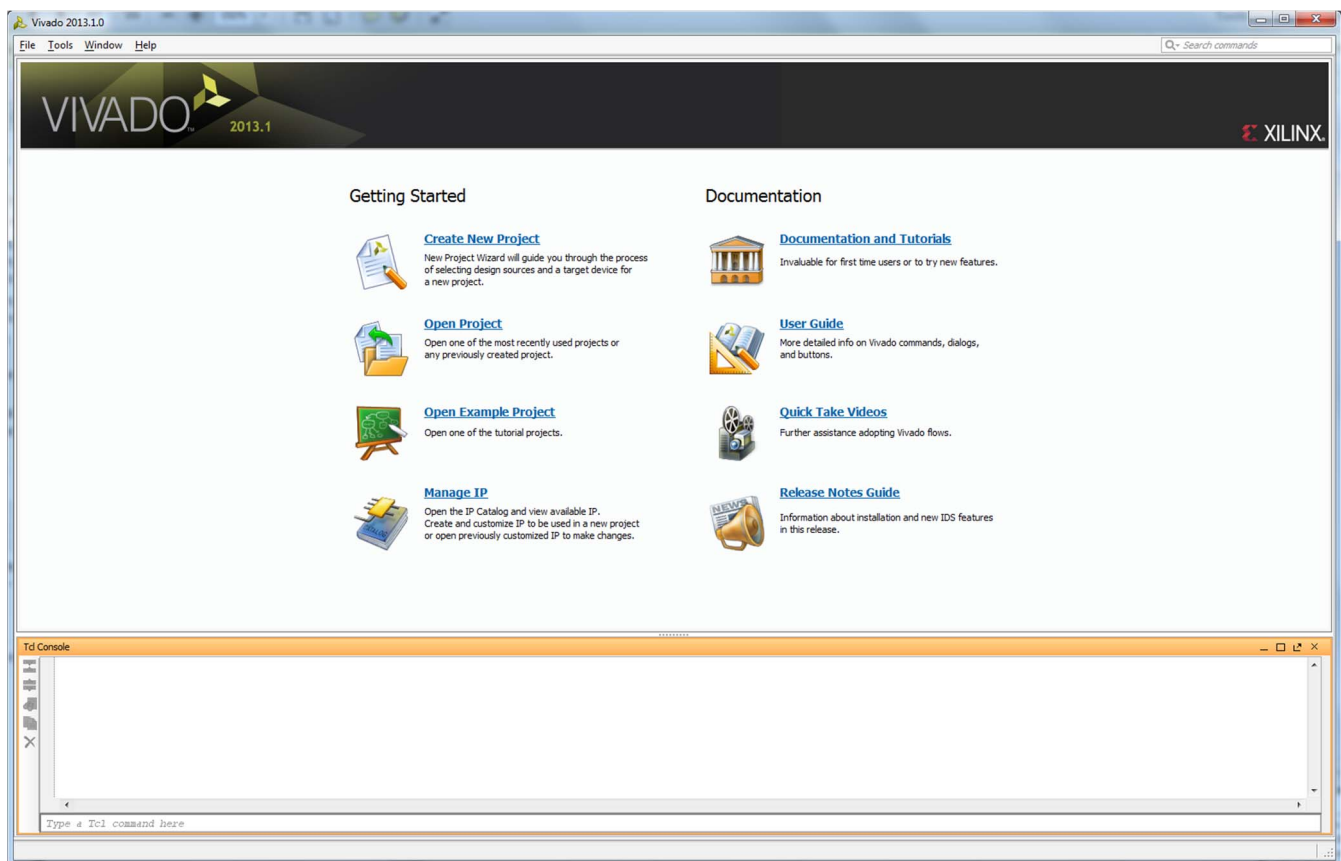
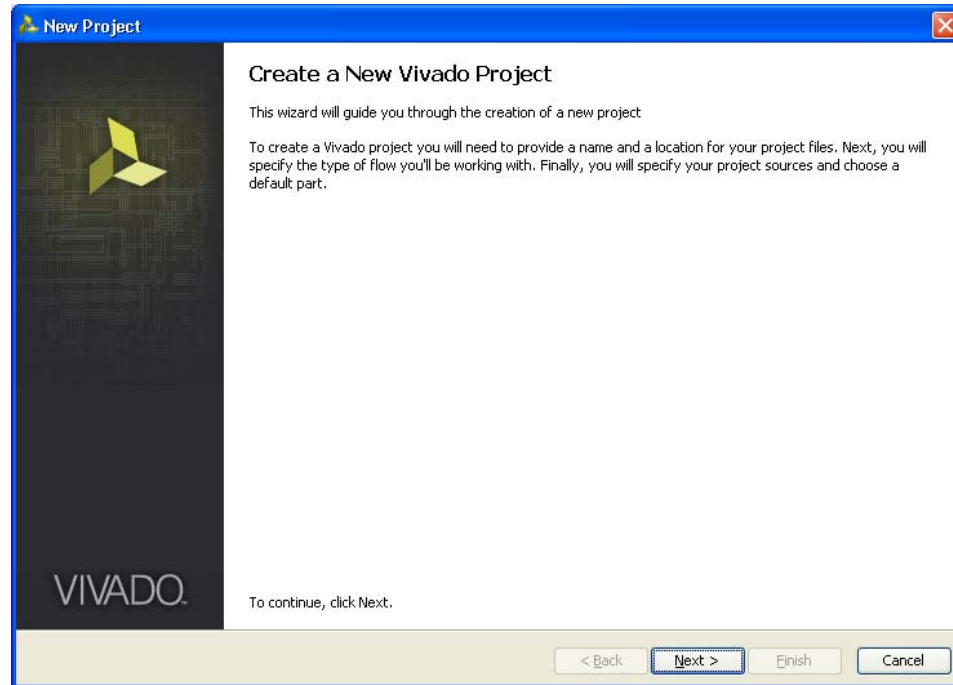

Figure 2-1: Vivado Design Suite
Figure 2-2: Create a New Vivado Tool Project
1. Start the Vivado Design Suite (see Figure 2-1).
2. To create a new project, click the **Create New Project** option shown in Figure 2-1 to open the page as shown in Figure 2-2.